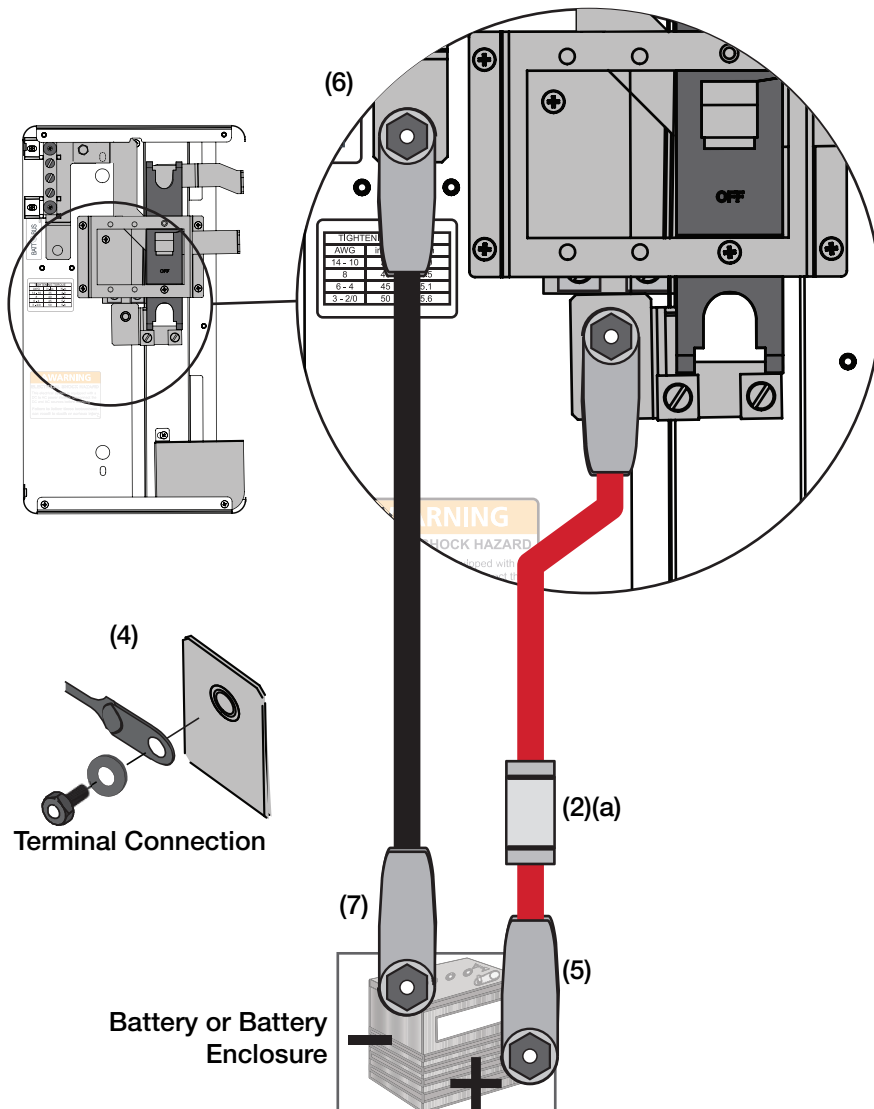

Figure 1-13 Connext SW DC Connections
- Make sure the DC cables, washers, and nuts are assembled in the order shown in Terminal Connection in Figure 1-13 on page 1–27.